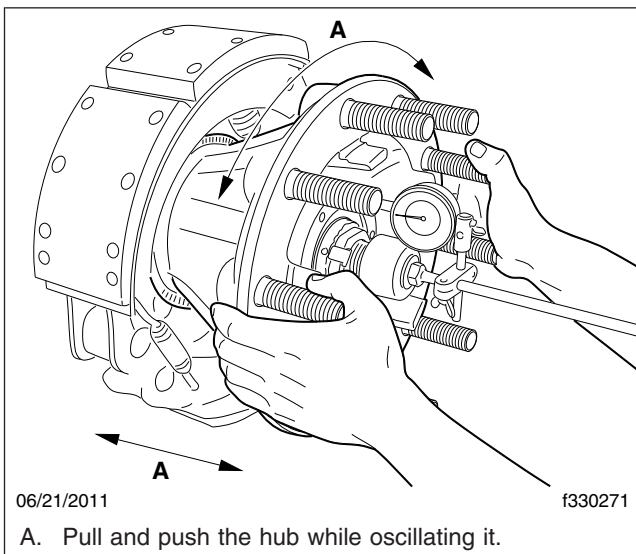

Fig. 10, Measuring End Play
- 11.2 To seat the bearings, grip the hub at the three o'clock and nine o'clock positions, and push inward while oscillating it approximately 45 degrees. Maintain pressure on the hub, note the inboard measurement, and then pull the hub outward while oscillating it as before. Maintain pressure on the hub, and note the outboard measurement. See **Fig. 10**.